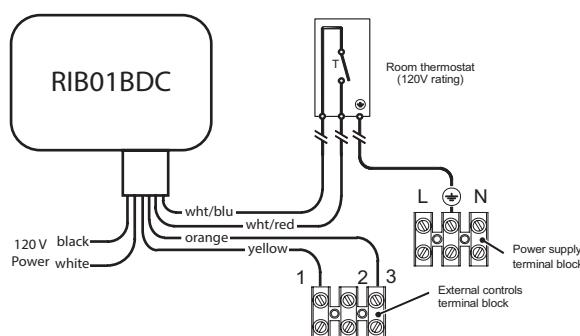

Figure 12.7
- The room thermostat must be connected to the “Control Terminal Block” through a external relay such as the RIB01BDC. (Fig 12.7).
- Connect the room thermostat and relay control between terminals 1 and 3 as shown in Fig. 12.7.